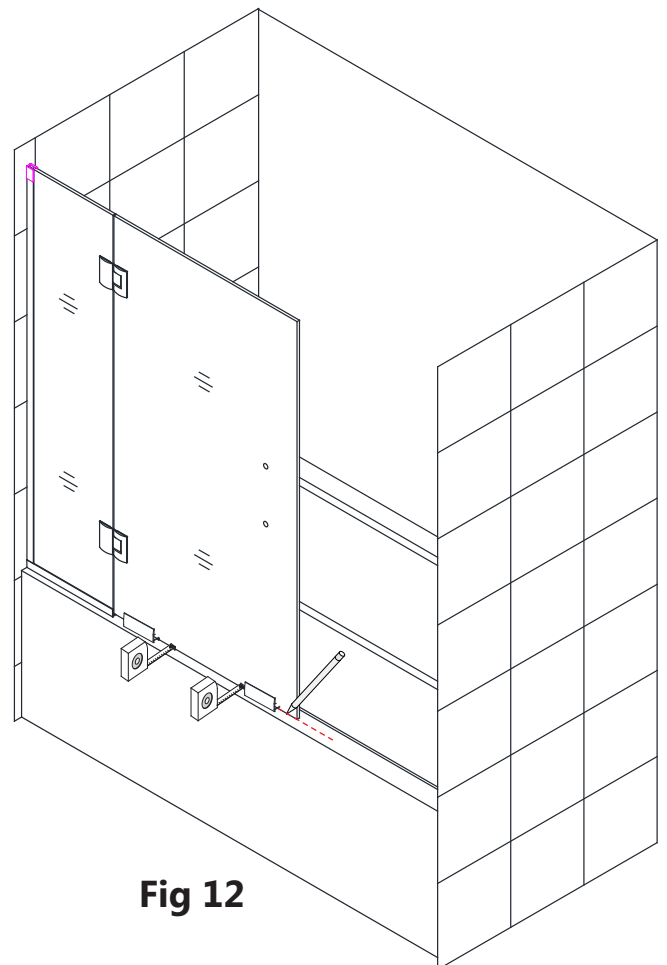

Fig 12
11. With the door closed, align the door parallel to the front edge of the tub deck. **Hold** the door glass in place and mark its position on the tub deck. **(Fig 12)**